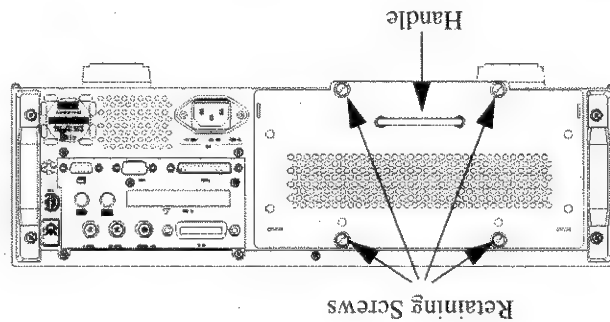

Figure 157 Back Panel of HP 8164A Lightwave Measurement System
- 1 Tighten the retaining screws, see Figure 157, that secure the module in the instrument.